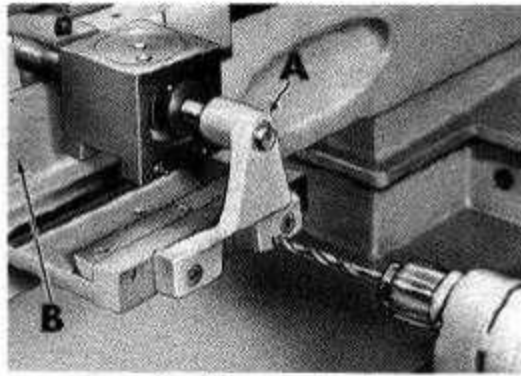

Figure 9
13. Make sure spline screw is properly aligned. Slide taper bar (A) to extreme left and extreme right. If screw binds in either position, readjust support bracket (B). Tighten taper screw bearing support (C).
14. Remove the taper bar and slide. Drill two 1/4" holes 1-1/4" deep in support bracket (A, fig. 9), and in bearing support (B). Install pins (furnished) flush with surface.